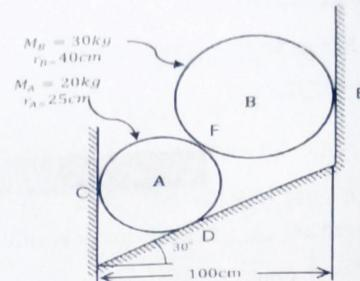

Fig 2.27
- 4) Two smooth cylinders are supported between stationary surfaces as shown in fig 2.27. Find reaction at all points of contact. (Ans.: $R_E = 188N$; $R_D = 565.8N$; 30° ; $R_C = 166.2N$; $R_f = 349.2N, 57.42^\circ$)